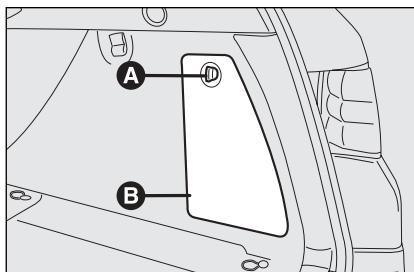

fig. 130
- ☐ turn the knob **A**-fig. 130 and open the flap **B** set on the right side of the boot;